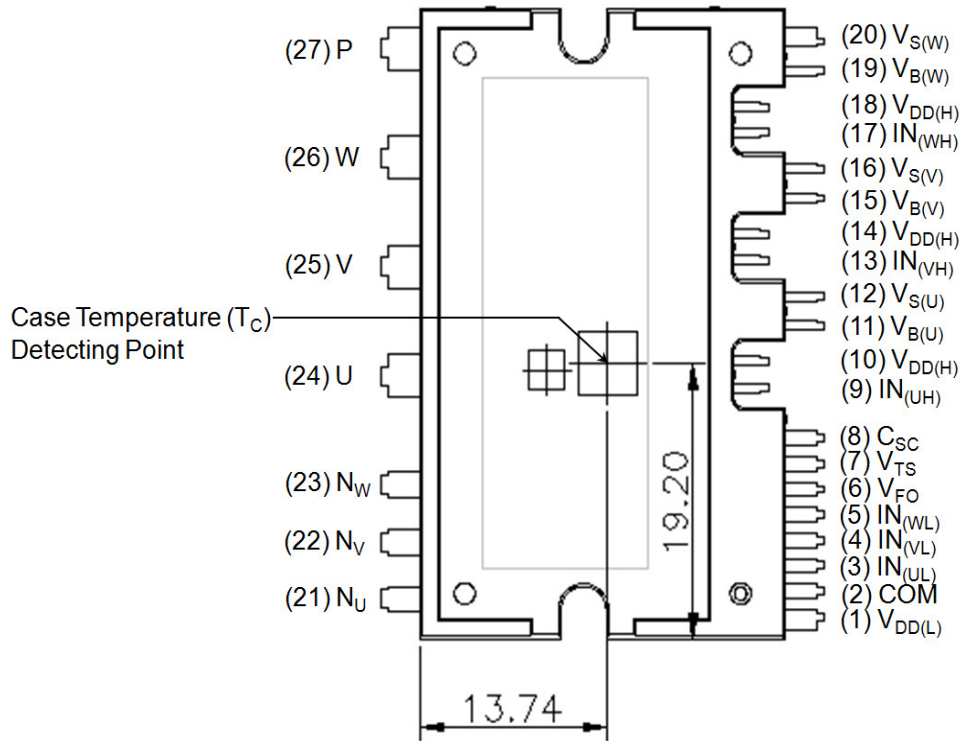

Figure 1. Top View
- For the measurement point of case temperature (T_C), please refer to Figure 1. DBC discoloration and Picker Circle Printing allowed, please refer to application note AN-9190 (Impact of DBC Oxidation on SPM[®] Module Performance).